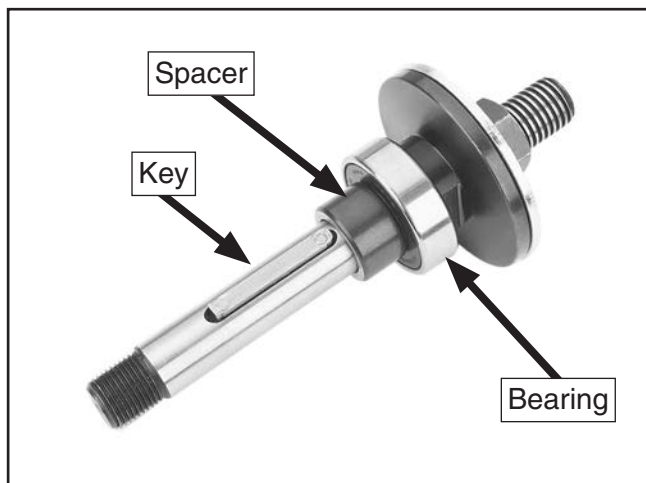

Figure 144. Components re-installed on arbor.
21. Re-install larger front spacer and key onto arbor. Arbor should look like arbor shown in **Figure 144**.